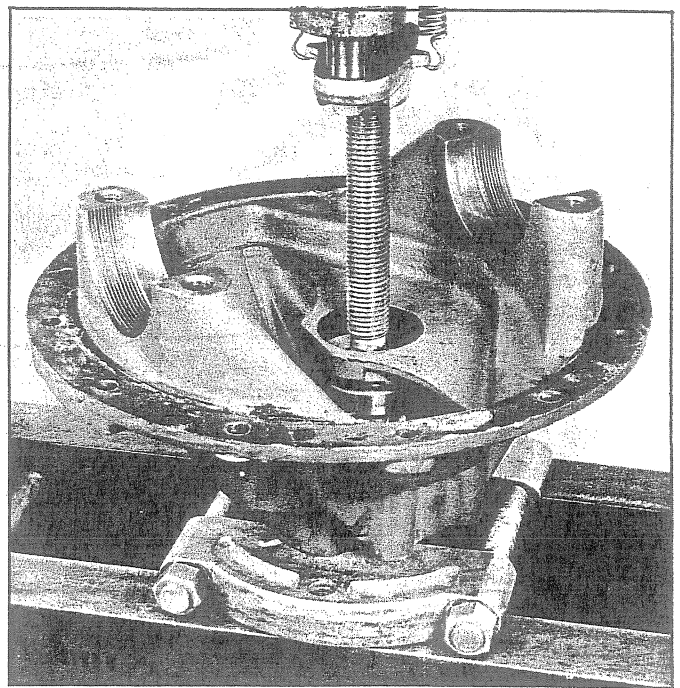

Fig. 108 - Pressing Pinion Assembly from Differential Carrier
8. Press pinion assembly from differential carrier as shown in Fig. 108.